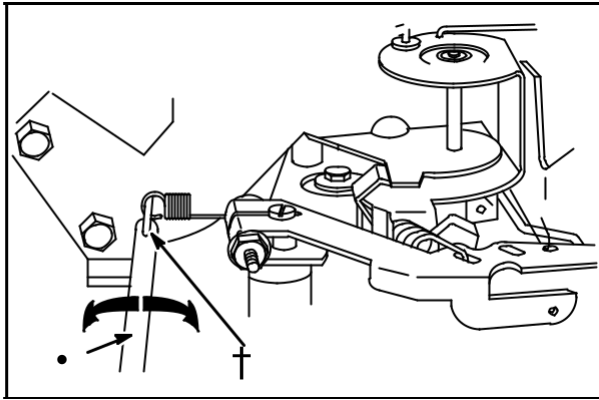

Fig. 43
Use tang bender (1) to bend governed idle tang (6) to obtain RPM shown, **Fig. 43**: